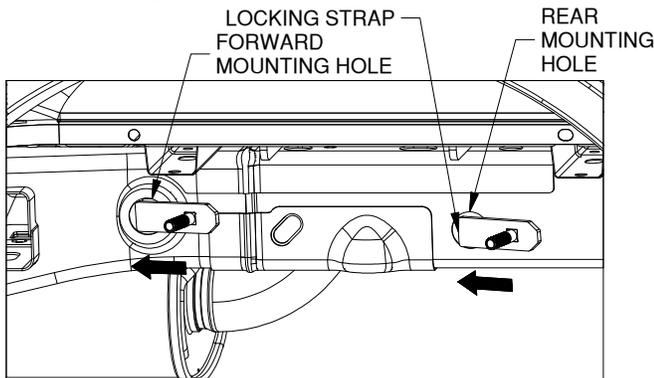
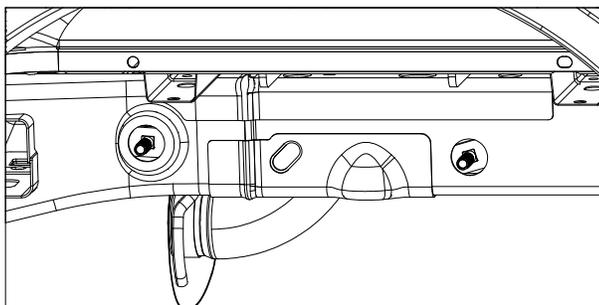

Figure C1: View of driver side wheel well.
Figure C2: View of driver side wheel well.
1. **Install carriage bolts.** Each side plate is attached to the frame with the help of a locking strap. To begin, locate the forward and rear mounting holes in the frame shown in Figure C1. Attach the carriage bolts to the locking straps by passing the bolts through the straps. Insert the locking straps through the holes in the frame until they are completely inside the frame and only the carriage bolt is passing through the holes, see Figure C2.